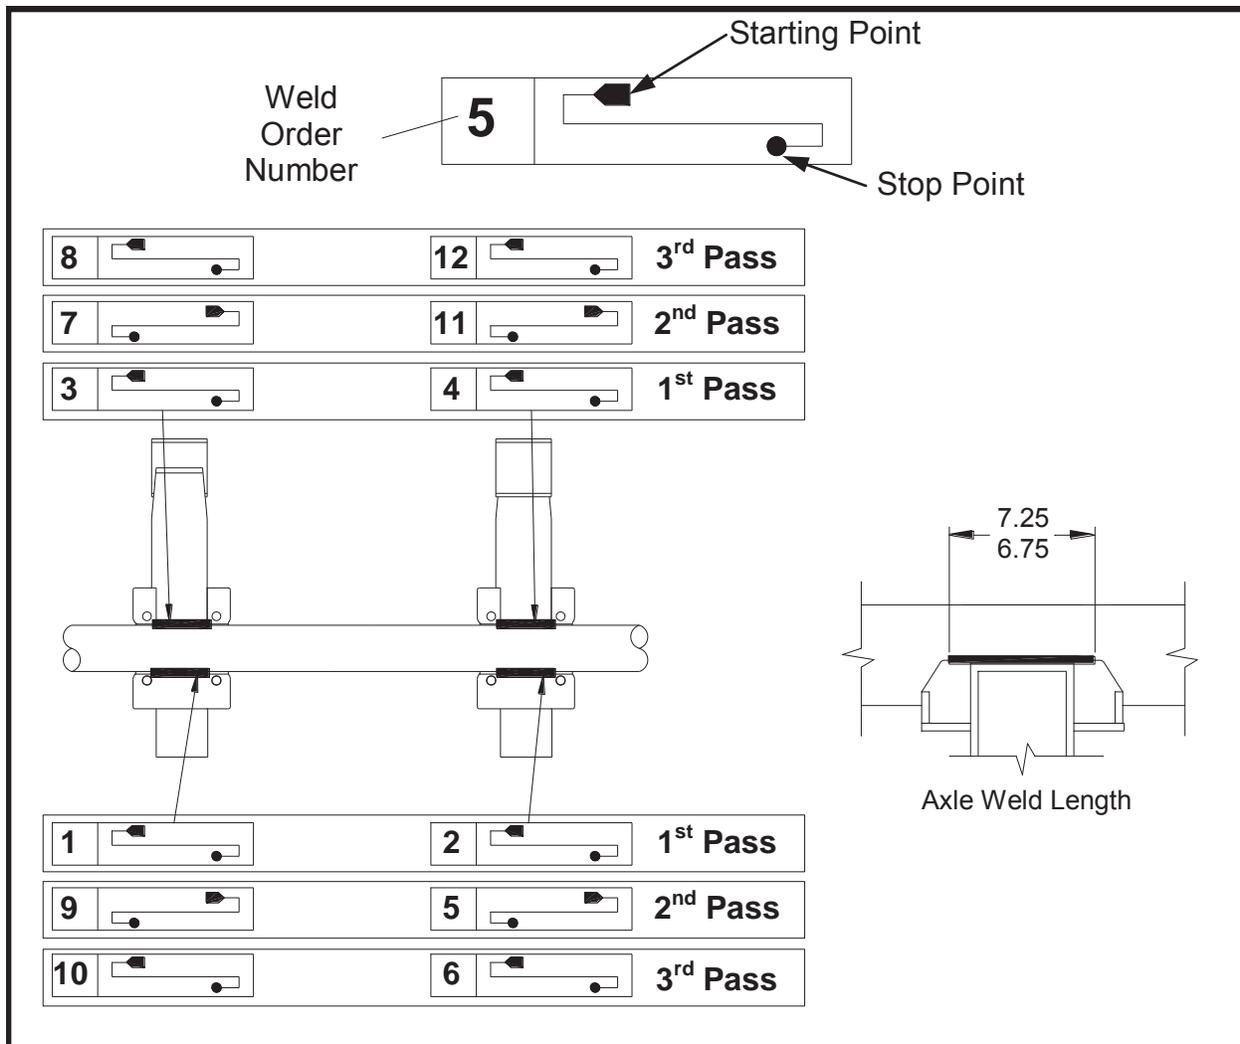

Figure 7
2. Start welding in the sequence shown in **Figure 7** at the rear side where the axle and seat meet. Make all first pass welds at all areas before proceeding to the second pass. **Welds should not be started or stopped at the end of the weld pass. They should stopped and started away from the ends as shown in Figure 7.**
3. **Figure 7** also shows the length of weld for both overslung and underslung models. **Do not wrap the corners of the axle seat while welding.**